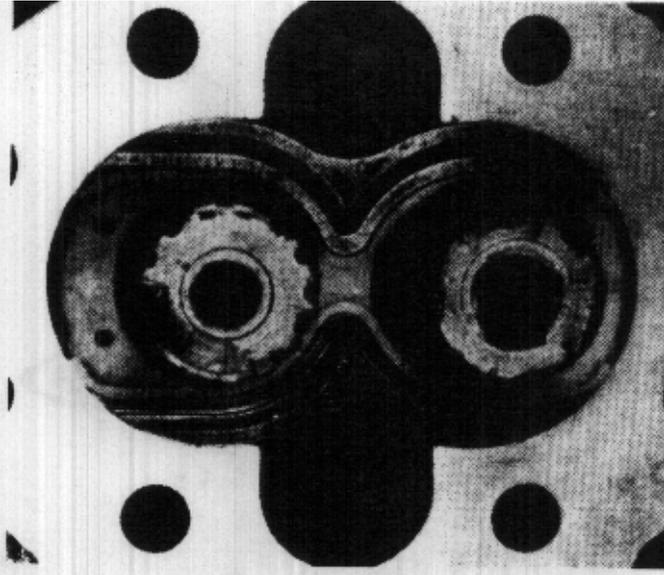

FIGURE 98
37. Install center separator (16), end separators (15), sealing strip (17), and isolation plates (10). (No separators nor isolation plates in SPM25.) (Fig. 98)